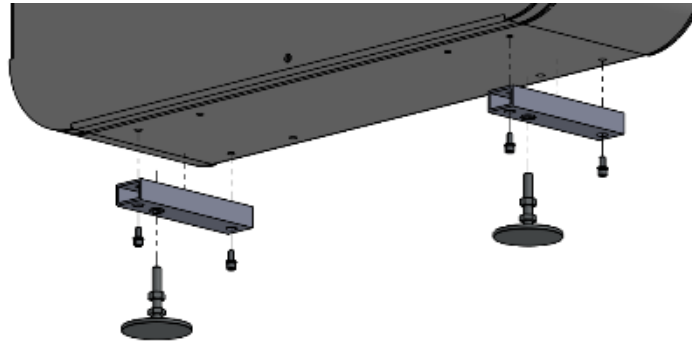

Figure 6 - Installation of levelling foot assembly.
5. Install the rectangular mounting sections to the unit using the provided M6 bolts (5mm hex driver, max. torque 5Nm). Ensure the threaded insert for the levelling foot is pointing towards the front of the unit (Figure 6). The inner pairs of mounting holes can also be used if there are any obstructions. Mixing an outer mounting hole and inner mounting hole is not permitted.